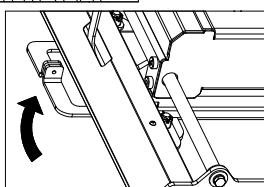

Figure B2: View of closed latch handle.
- Prepare to adjust latch tension.** Once the base is in place, remove the cotter pins from each of the four castle nuts. Engage the cams with each attachment point by turning the latch handles back to their locked position, see Figure B2. If a handle will not turn easily, loosen the castle nut until the cam will freely turn and engage the attachment point.